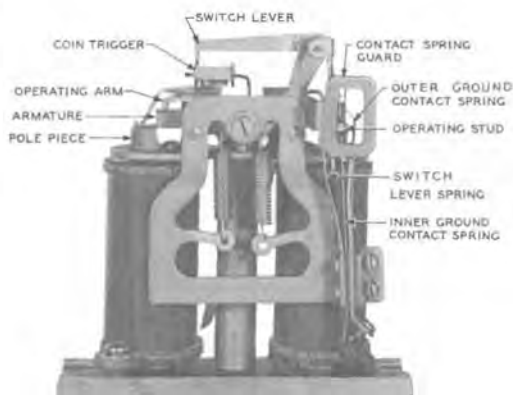

Fig. 56—P-145749, Two-Coil Coin Relay
6.108 Refer to Fig. 56 and 57 for component parts.